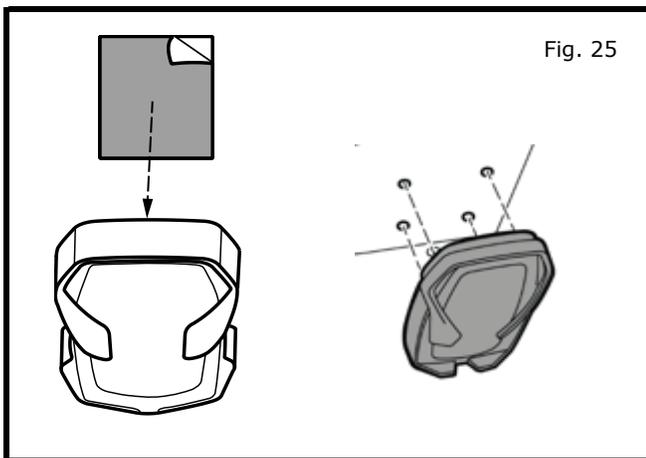

Fig. 25
- Accessory service connector pin out is shown in Fig. 25.